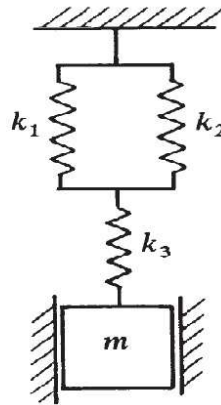

Figure: 1
- Q.2(b) Obtain the differential equation of motion of the system (without damping) shown in Fig. 1 and determine the system natural frequency. [5]